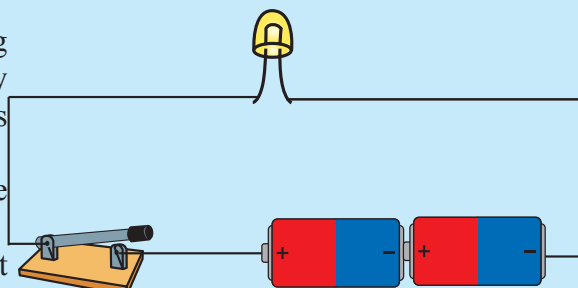

Figure 10.33 ▲
- Prepare the circuit by connecting an LED, the switch and two dry cells using connecting wire as shown in Figure 10.33.